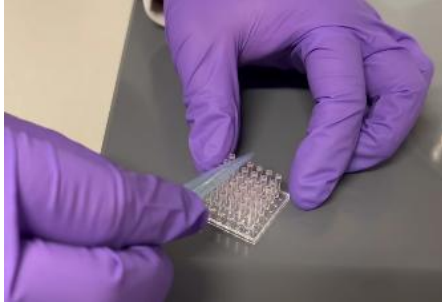

Figure 3. Scrapping excess cell-Matrigel mixture off the pillars using the 1 mL pipette tip.
- After loading the cell-Matrigel mixture on all pillars, scrape excess the cell-Matrigel mixture off the pillars by sliding the 1 mL pipette tip in a horizontal position on all pillars (**Fig. 3**).